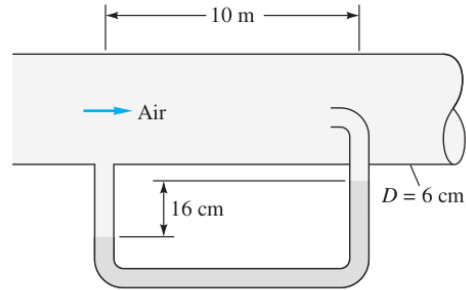

Fig. 6.12
- 6.12** An engineer who took college fluid mechanics on a pass-fail basis has placed the static pressure hole far upstream of the stagnation probe, as in Fig. 6.12, thus contaminating the pitot measurement ridiculously with pipe friction losses. If the pipe flow is air at 20°C and 1 atm and the manometer fluid is Meriam red oil (SG = 0.827 or $\rho = 827 \text{ kg/m}^3$), estimate the air center-